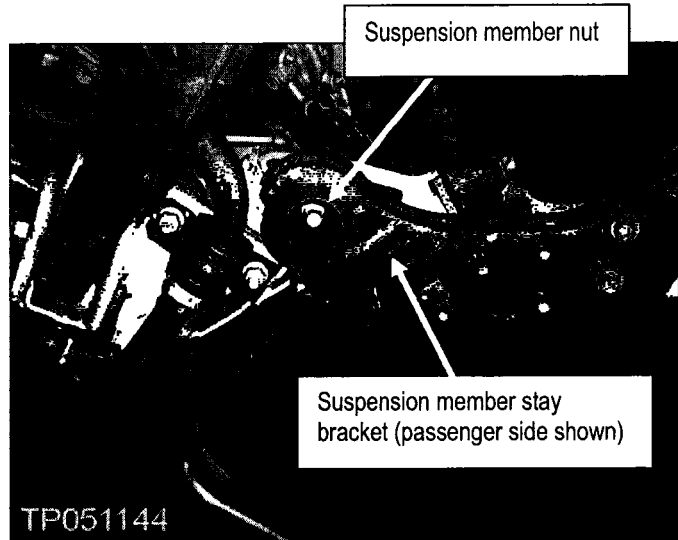

Figure 67
30. Remove the bolts and nuts that hold the suspension member "stay" brackets (both passenger and driver's side brackets). See Figure 67. Then remove the stay brackets.